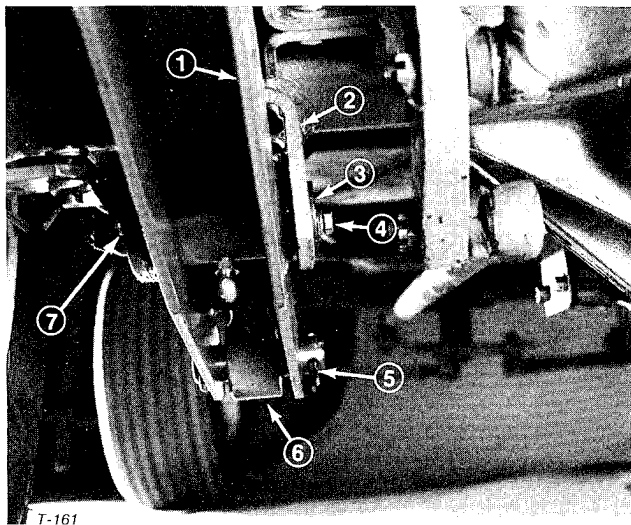

Figure 2
3. Align lift arm holes with hydraulic cylinder rod hole, insert pin and secure with cotter pins (Fig. 2).